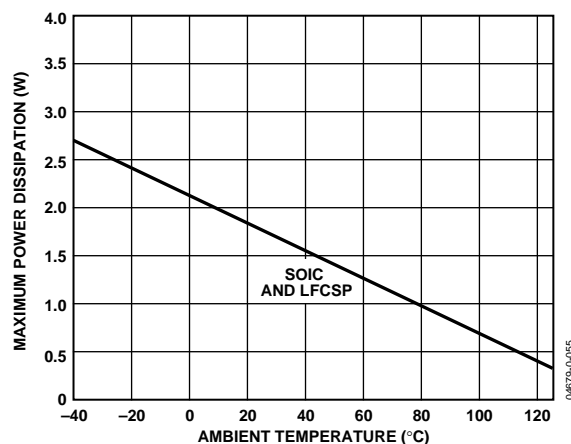

Figure 3. Maximum Power Dissipation vs. Temperature for a 4-Layer Board
| Power Dissipation                            | See Figure 3    |
Figure 3 shows the maximum safe power dissipation in the package versus the ambient temperature for the exposed paddle (EP) SOIC-8 ( $\theta_{JA} = 70^\circ\text{C}/\text{W}$ ) package and LFCSP ( $\theta_{JA} = 70^\circ\text{C}/\text{W}$ ) on a JEDEC standard 4-layer board.  $\theta_{JA}$  values are approximations.